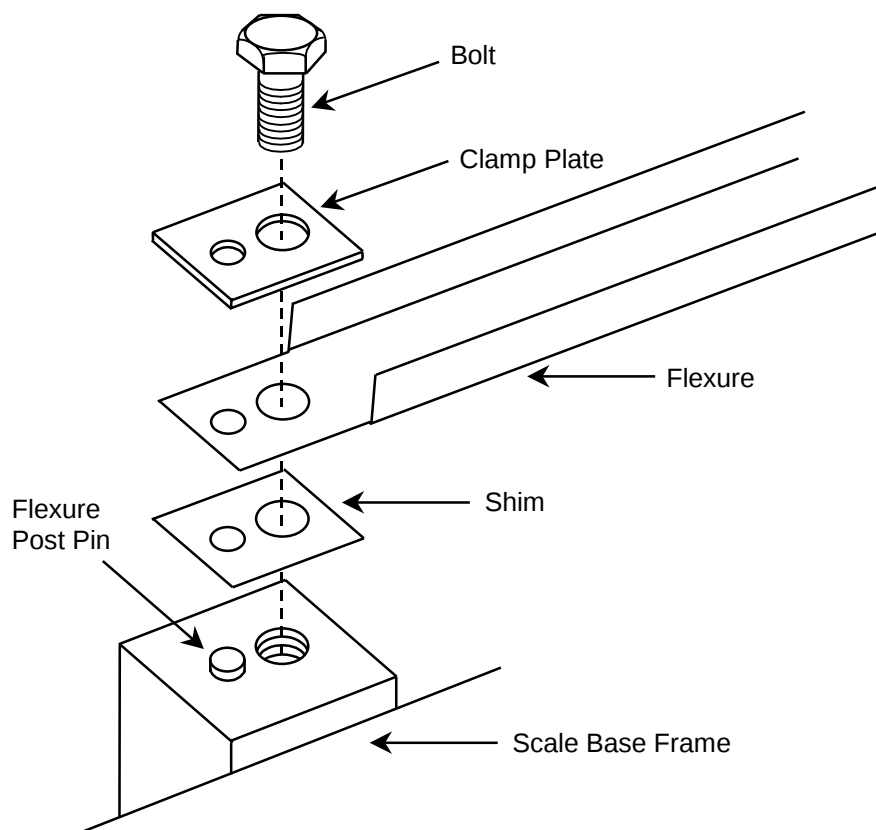

Figure 4-8: Shim Placement for 24" x 30" Scale Base
- For 24" x 30" bases, fit the small hole on each clamp plate and shim over the flexure post pin (see Figure 4-8).